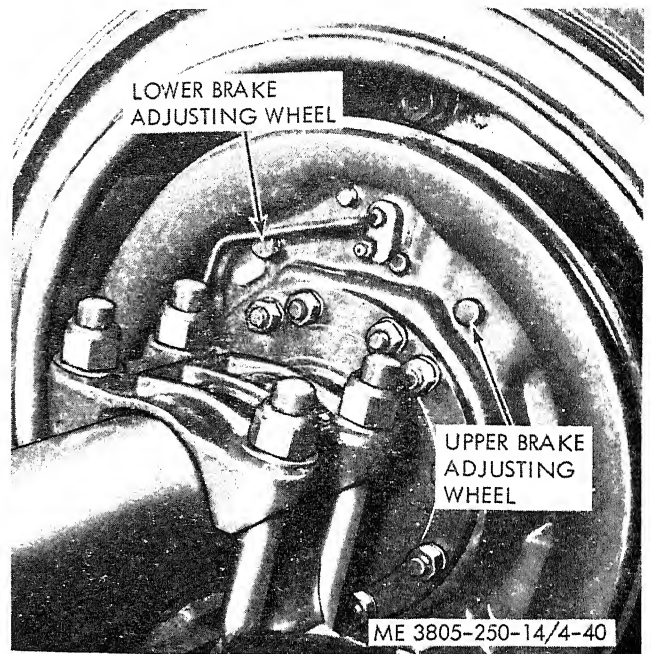

Figure 4-40. Wheel brake adjustment.
(1) Turn the lower brake adjusting wheel (fig. 4-40) until the lining drags on the drum when the drum is rotated.
(2) Turn the upper adjusting wheel until the lining drags on the drum.
(3) Alternately turn each adjusting wheel until the drum cannot be rotated.
(4) Back off the adjusting wheels alternately until the lining no longer drags on the drum.
(5) Bleed the brake hydraulic system (subpara c) to remove any air.
(6) Check the brake adjustment and repeat steps (1) through (4) as necessary.
(7) Adjust the opposite brake.